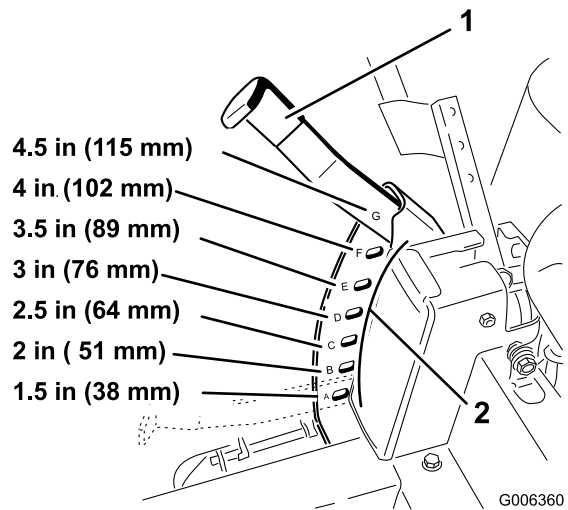

Figure 17
3. Raise the height-of-cut lever to the transport position, cutting height position 4.5 (also the 4-1/2 inch [115 mm]) (Figure 17).